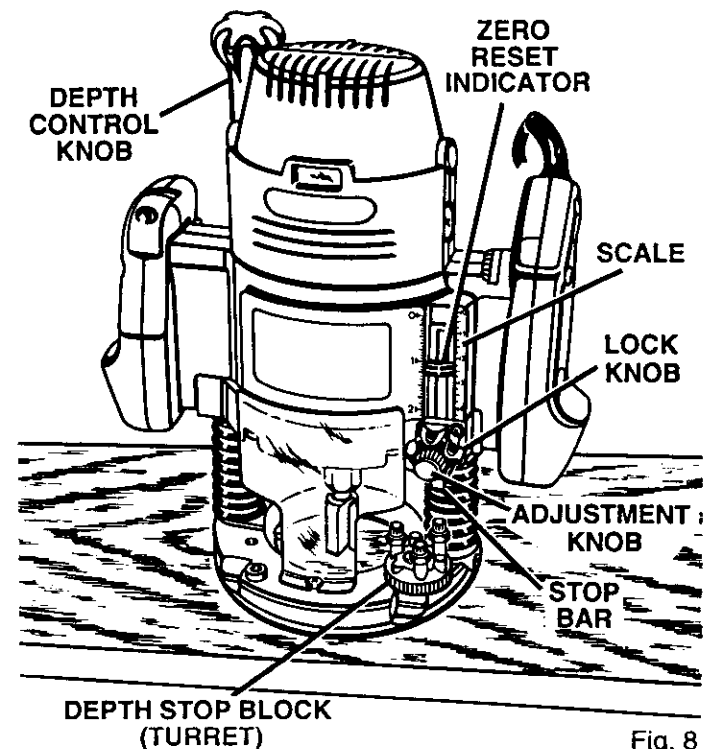

Fig. 8
- Lower router until tip of cutter barely touches flat surface. See Figure 8.
- Next, turn adjustment knob in the opposite direction, lifting stop bar to obtain desired depth of cut. See Figure 8. For example, if setting 1/8 in. depth of cut, the zero-reset indicator will move 1/8 in. from the 1 in. reference point. Tighten knob securely.